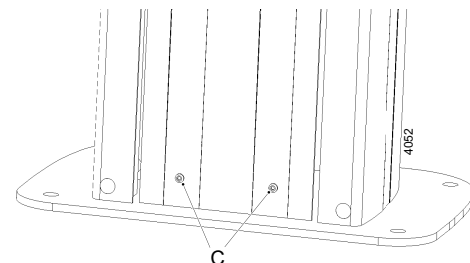

Fig. 4-177 Remove lower screws
14. Insert and tighten the 2 lower screws (C) holding the front aluminium plate, see **Fig. 4-177**